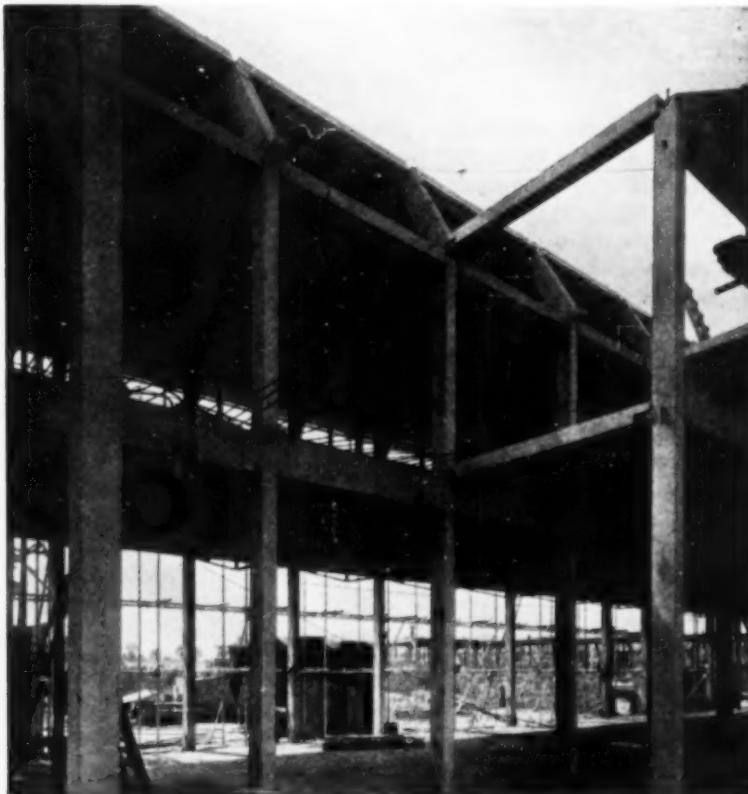

Fig. 2.
**TRUSSSED BEAMS.**—Trussed beams have been used in others of the schools. In Torells School (*Fig. 2*) a trussed beam was used in combination with precast columns with connections similar to those shown in *Fig. 1*, but in this case the lower chord was left visible. The main difference between these beams and those at Hatfield is that the struts were made of tubes and arranged vertically to suit